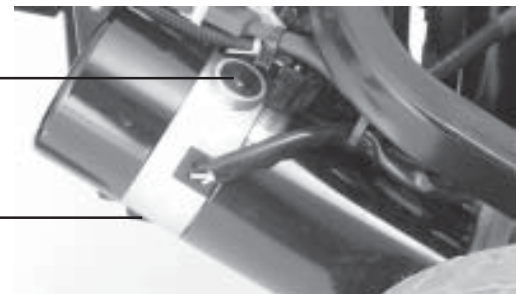

Figure 10. Motor Brush Location
- Unscrew the motor brush caps. There are two on each motor. See figure 10.